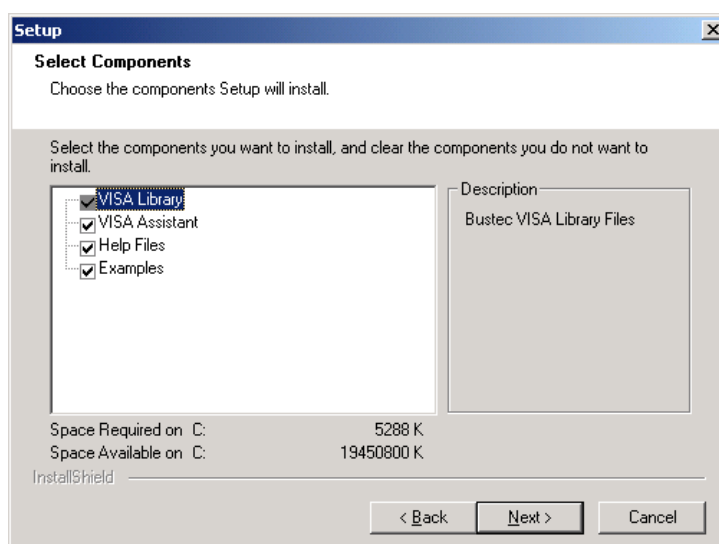

Figure 5 - Selecting Components for Installation.
7. If you have chosen “Custom”, selecting “Next” will allow you to select the components to install (see Figure 5):